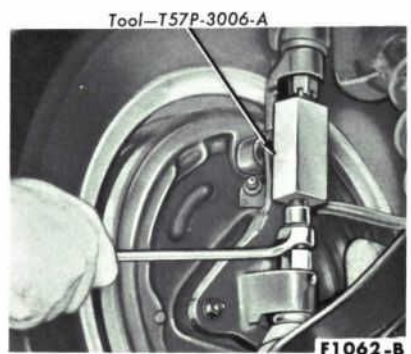

FIG. 84—Ball Joint Remover Tool
2. Place a box wrench over the lower end of the ball joint remover tool, and insert the tool between the upper and lower ball joint studs (Fig. 84). The tool should seat firmly against the ends of both studs and not against the stud nuts. Turn the wrench until
3. Place a box wrench over the lower end of the ball joint remover tool, and insert the tool between the upper and lower ball joint studs (Fig. 84). The tool should seat firmly against the ends of both studs and not against the stud nuts.